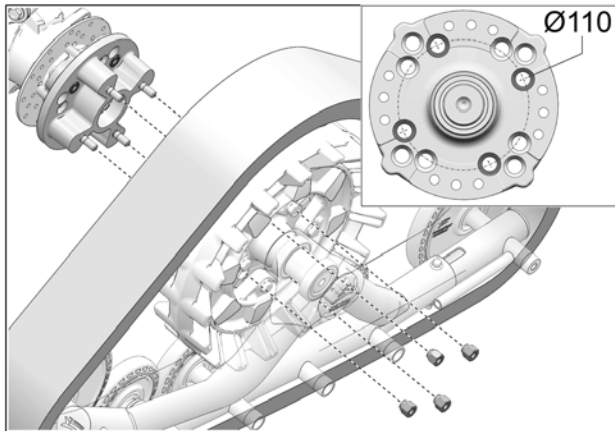

Fig. 10
10. Secure undercarriage to rear hub using the vehicle's own lug nuts. Use bolt circle $\varnothing 110$ mm. See Fig. 10